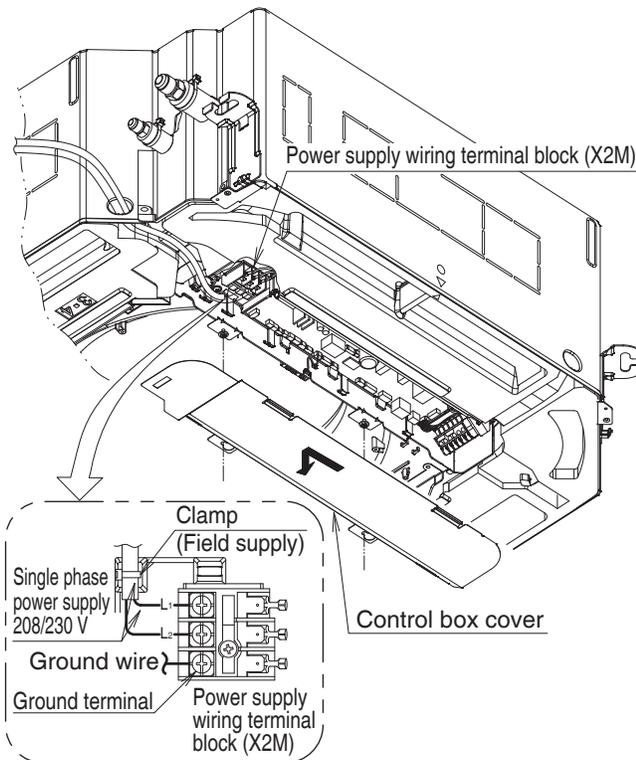

Fig. 21
1. Open the control box cover and connect the single phase 208/230 V power supply to the terminal (L₁, L₂) on the terminal block (X2M). Connect the ground wiring to the ground terminal. **(Refer to Fig. 21)**